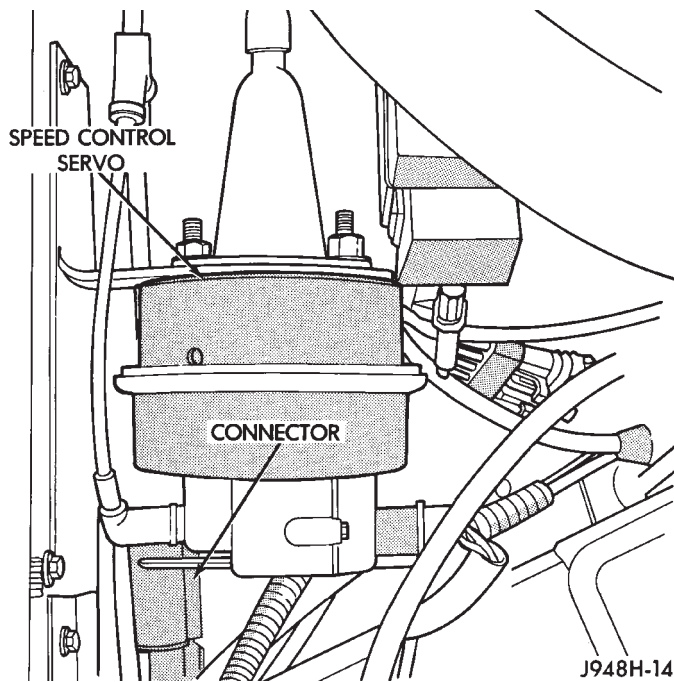

Fig. 4 Speed Control Servo - LHD
- (1) Check fuse F13 in the PDC. If OK, go to next step. If not OK, replace fuse.
- (2) Turn ignition switch to the ON position. Check for battery voltage at fuse F13. If OK, go to next step. If not OK, repair open circuit to ignition switch as required.
- (3) Connect the negative lead of a voltmeter to a good chassis ground near the servo. Unplug the 4-way connector going to the servo (Fig. 4 or 5). Push the speed control switch to the ON position. Check for battery voltage at servo harness connector cavity